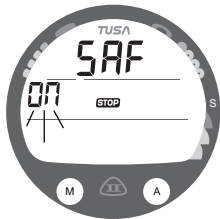

Fig. 29 - SET SAFETY STOP
**Set Safety Stop**, information includes (Fig. 29):